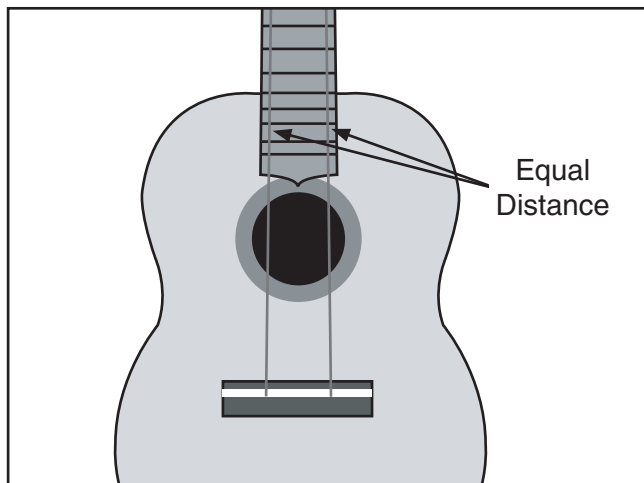

Figure 30. Positioning the bridge across the width of the ukulele.
5. Adjust the bridge side-to-side so there is an equal amount of space between the fingerboard edges and the threads (see **Figure 30**).